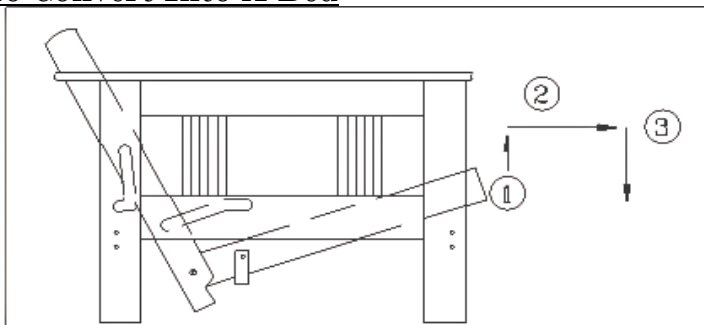

Figure 1
- 1) While standing in front of the sofa-bed convertible, grasp the front seat rail. Lift seat up about an inch, high enough to clear the plastic stops (Figure 1)
- 2) Slowly pull the seat assembly toward you until the roller in the back leg rests at the bottom of its groove (Figure 1).
- 3) Set the seat section down (Figure 1).